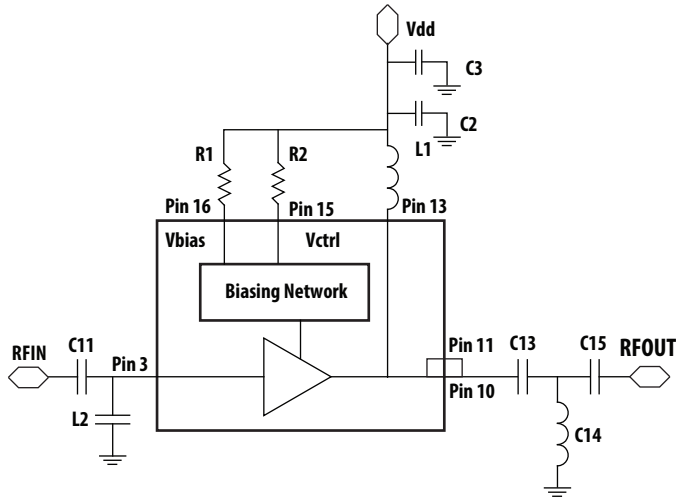

Figure 46. Circuit Diagram
1. V_{bias} and V_{ctrl} can be externally controlled by change external biasing resistors $R1 = R_{bias}$ and $R2 = R_{ctrl}$ (as shown in Fig. 46).